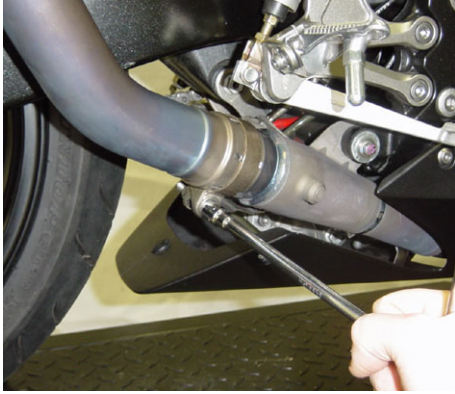

Figure 1
2. unscrew the bolt for the metal clamp on the link pipe (at the link pipe – collector joint) **(Figure 1)**